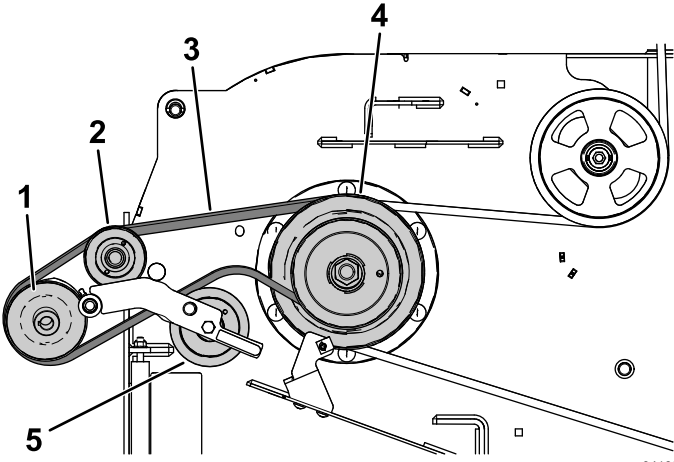

Figure 10
3. Route the belt beneath the idler pulley (Figure 10).
4. Remove the belt from drive pulley (Figure 10).
1. Align the blower belt around the pulley of the blower (Figure 10).
4. Temporarily route the belt beneath the idler pulley (Figure 10).
5. Route the belt around the drive pulley (Figure 10).
7. Pull the spring loaded idler/tension pulley away from the fixed spring post, and route the belt around the idler pulley (Figure 10).